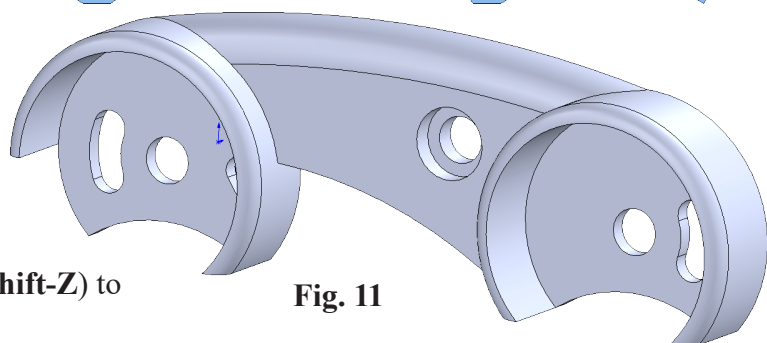

Fig. 11
Step 7. Use **Previous View**  on the Standard Views toolbar. (**Ctrl-Shift-Z**) to confirm counterbore, **Fig. 11**.